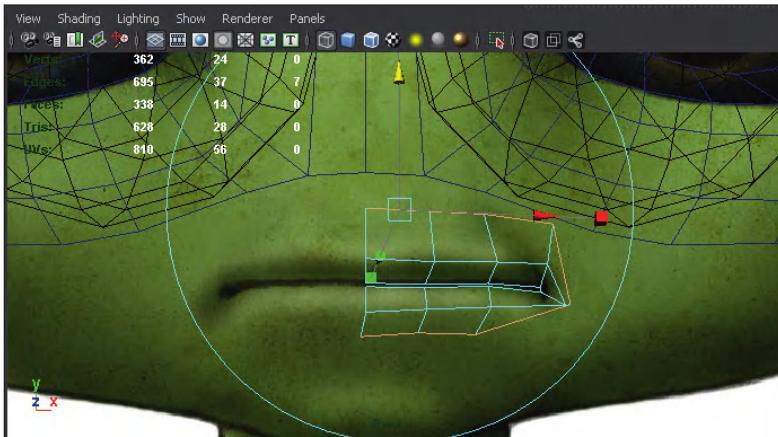

FIG. 4.26 Extruding out new geometry.
Step 41: Extrude new geometry for the lips. This is done by selecting the edges that are on the outside ring of the lips – but *do not* select the edges that are on the far left (along the mirrored axis). Then use the Extrude Tool to extrude out this new geometry (Fig. 4.26).